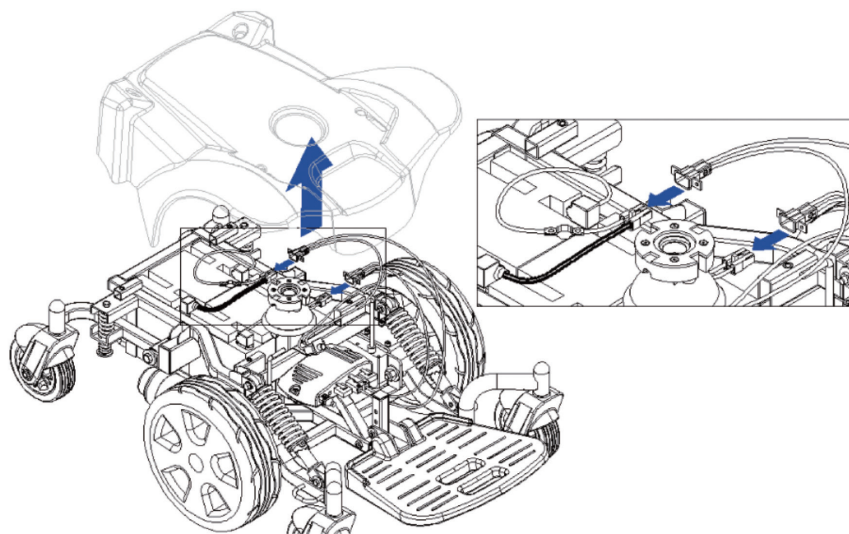

Figure 10. Link up the power connector and main cable
2. Link up the power connector and main cable. (See figure 10)